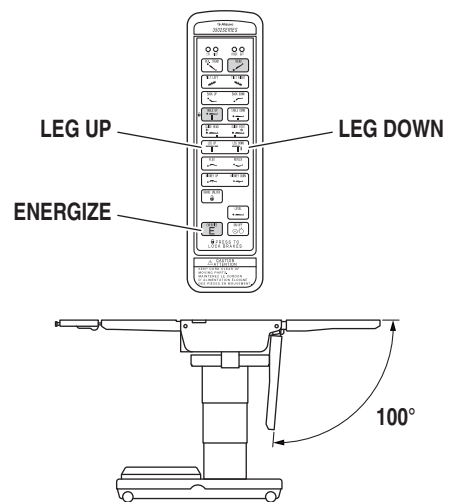

Figure 2-14. Leg Section Positioning
g. Leg Section To lower the leg section, press the ENERGIZE button and then the LEG DOWN button (figure 2-14). The leg section will go down to 100° below horizontal. To raise the leg section, press the ENERGIZE button and then the LEG UP button. The leg section will go up to level.